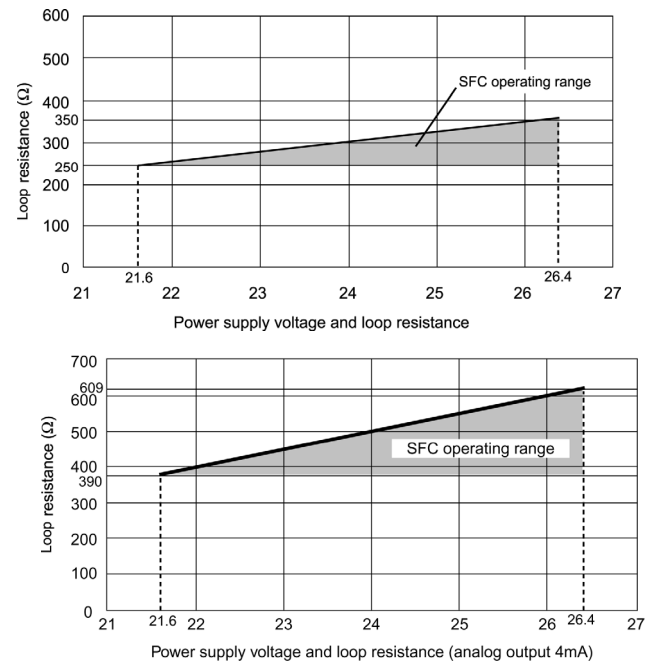

Figure 1.
21.6 V DC to 26.4 V DC (see Figure 1 for relationship